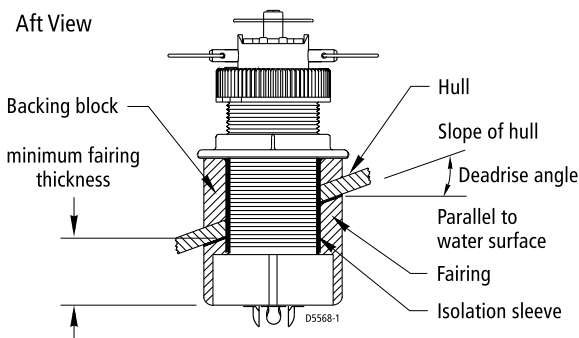
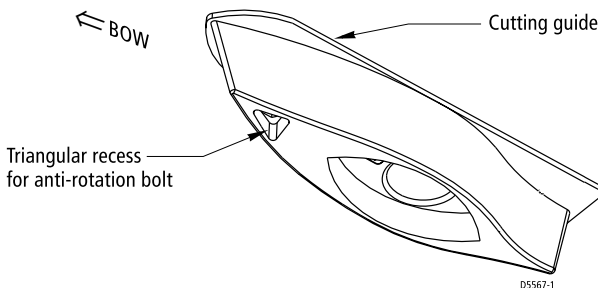

Figure 2-3: Deadrise Angle and Fairing Thickness
Figure 2-4: Transducer Fairing E66023
A backing block is used inside the hull to provide a level surface for the hull nut to seat against (see *Figure 2-3*). After cutting the fairing, use the remaining section with the cutting guide as the backing block (see *Figure 2-4*).
1. Measure the deadrise angle of the hull at the selected location using a digital level, or bubble level and protractor (see *Figure 2-3*).
1. Drill a 1/8" (3 mm) pilot hole perpendicular to the water line from inside the hull (see *Figure 2-3*).
2. **Stainless steel transducer in metal hull** - Slide the appropriate size isolation sleeve over the cable and onto the stem of the transducer as far down as possible (see *Figure 2-3*). Be sure the top of the isolation sleeve will be below the top of the backing block to prevent the sleeving from interfering with tightening the hull nut.